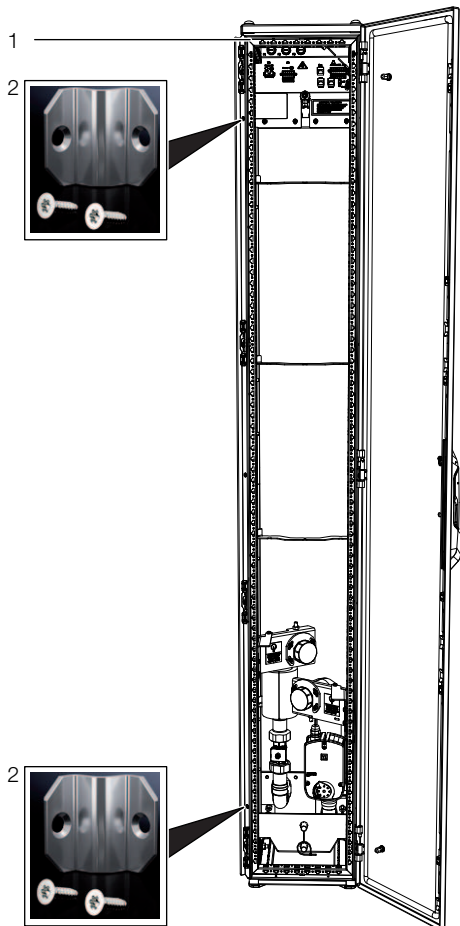

Fig. 39: LCP Rack – rear
- Using the corresponding assembly screws, fasten four baying connectors each (5301.310, fig. 39, item 2) onto the attachment points provided in the mounting strips on the front and rear of the LCP Rack or LCP Inline Flush (fig. 39, item 1).